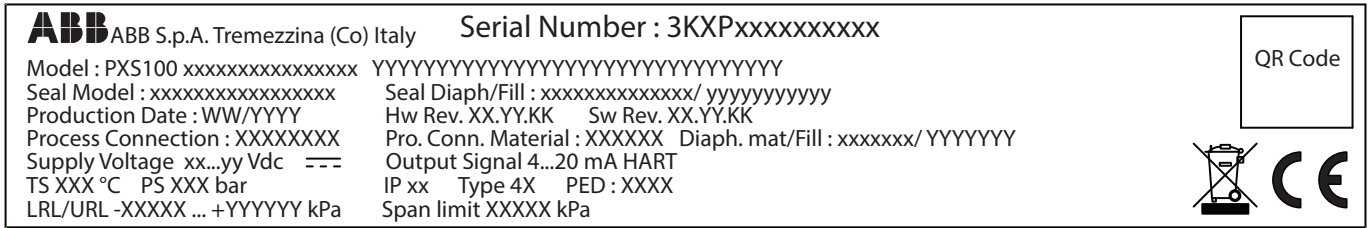

Figure 2 - Nameplate for pressure transmitter model PGSxxx/PASxxx
The plate in figure 2 provides detailed information associated with the transmitter, concerning the model code, date of production, hardware and software revisions, process wetted materials, power supply range, output signal, maximum working temperature (TS) and pressure (PS), IP rating, PED identification code, range and span limits, calibration range and special request number (if applicable) in another section.